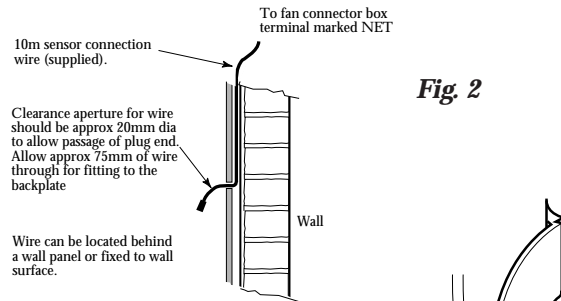

Fig. 2
- Select a suitable location for the sensor and arrange the cable in position. Leave approx. 75mm of the cable free at the mounting point to ease the connection of the plug. (fig. 2).